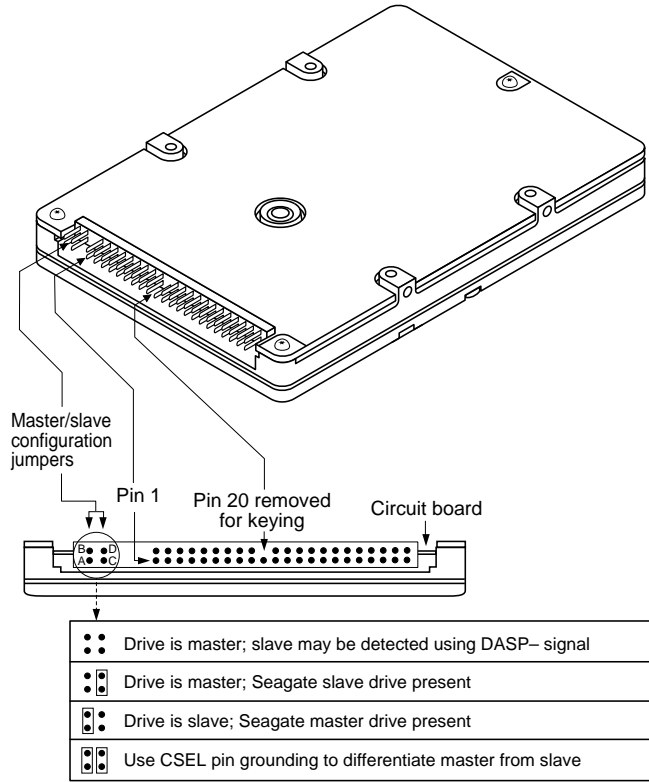

Figure 1. ATA interface connector and master/slave configuration jumpers
- 2. Install master/slave jumpers.** In a two-drive system, you need to designate one drive as the master, or drive 0, and the other drive as the slave, or drive 1. To do this, install the master/slave jumpers as shown in Figure 1. In a one-drive system, configure the drive as a master (no jumpers installed).
Alternatively, you can configure the drive as a master or slave using the cable select option. Cable selection requires a special daisy-chain cable that grounds pin 28 (CSEL) on one of its two drive connectors. If you attach the drive to the grounded CSEL connector, it becomes a master. If you attach the drive to the ungrounded CSEL connector, it becomes a slave. To use this option, the host system and both drives must support cable select, and both drives must be configured for cable select. To configure a Marathon 420sl for cable select, install both master/slave jumpers, as shown in Figure 1.
4. **Connect the 44-pin interface/power cable.** Match pin 1 of the cable to pin 1 of the interface connectors on the drive and on the computer. Pin 1 is usually denoted by a stripe along one edge of the cable. The location of pin 1 on the drive interface connector is shown in Figure 1 on page 3. The cable should be no longer than 18 inches (0.457 meters).
- **Check all cables.** Make sure that all cables are securely connected. Printed circuit and ribbon cables are quite fragile. Check to see that they are not crimped or damaged. Make sure that pin 1 of the interface cable is connected to pin 1 of the interface connector on the drive and on the computer. Most ribbon cables have a stripe down one side to designate pin 1. The location of pin 1 on the drive interface connector is shown in Figure 1 on page 3.